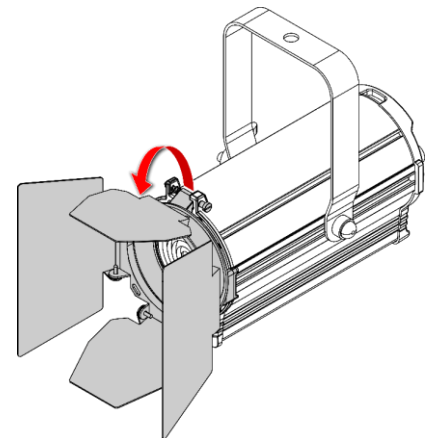

Fig. 11
- 03) Pull the **color frame clip (02)** downwards to release the **spring-loaded screw (01)** (see Fig. 11). The barndoor will be locked in position.